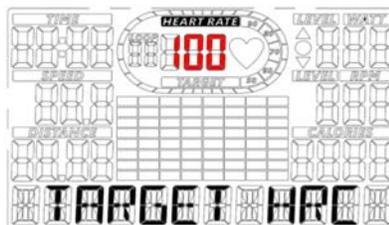

Fig. 39
- If TARGET mode is selected, go to next step for setting H.R. value (default value is 100 as shown in fig. 39).